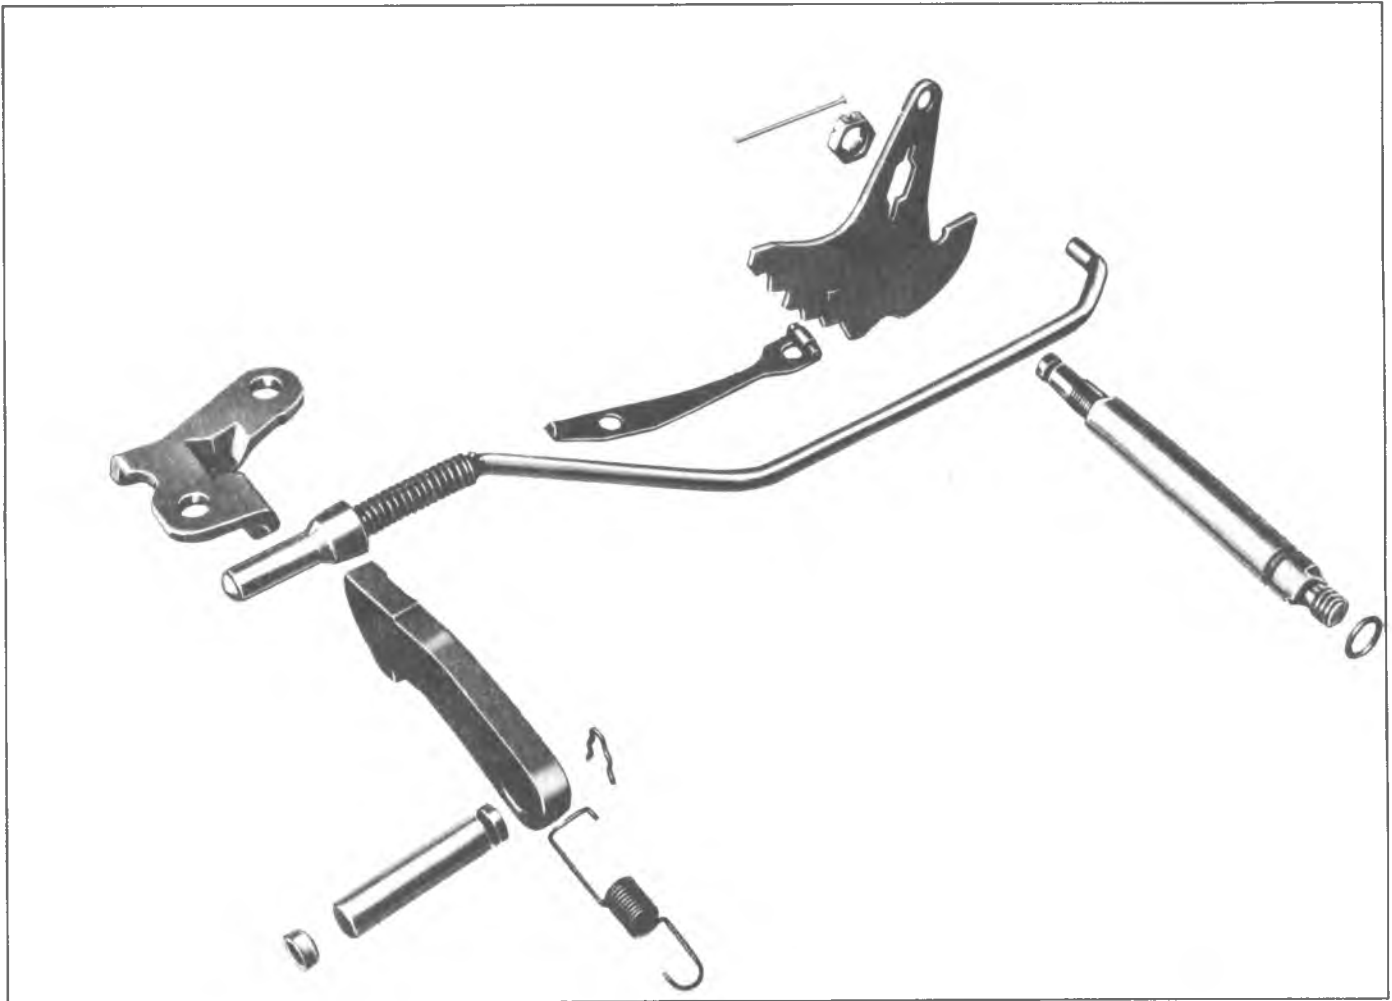

Fig. 111T--Manual and Parking Linkage--Exploded View
1. Inspect parking actuator rod for cracks, or broken spring retainer lugs (fig. 111T).